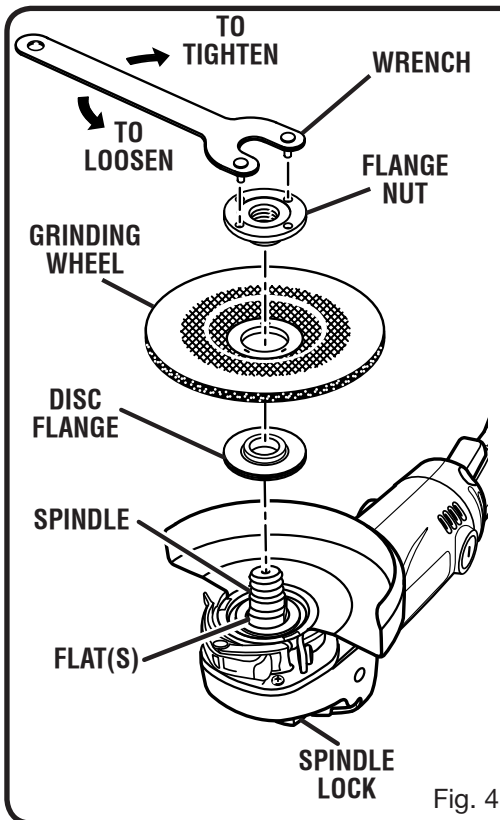

Fig. 4
See Figures 4 - 6.
- To install grinding wheel and wire wheel brush, thread the nut on the spindle with the flat side of flange nut facing up. Fit raised, small diameter portion of the nut into the hole in the wheel and finger tighten. *See figures 4 and 5.*